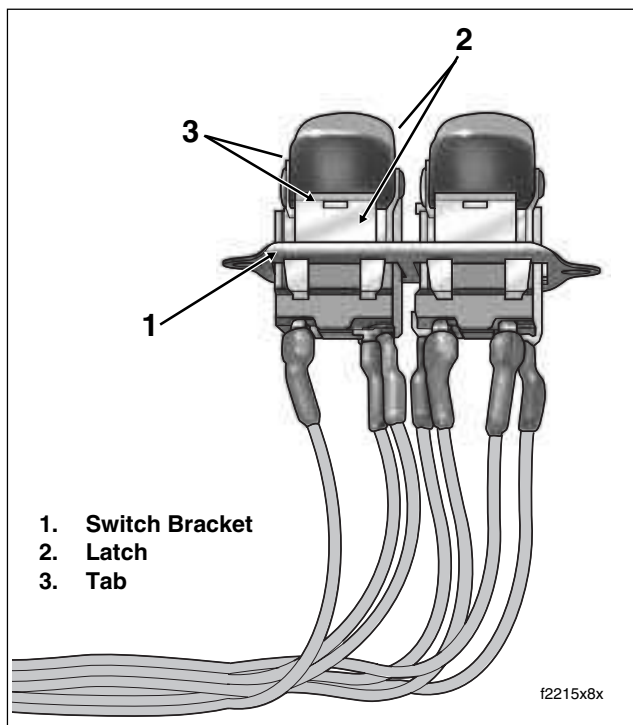

Figure 8-84. Bend Latches Outward to Release Tabs
- f. Carefully pry two latches on bracket outward to release tabs on switch. Remove switch from bracket. See Figure 8-84.
- Place **new** switch into position in bracket. Engaging tabs on switch in slots of latches, gently bend tabs upward to lock position of switch in bracket. See Figure 8-84.